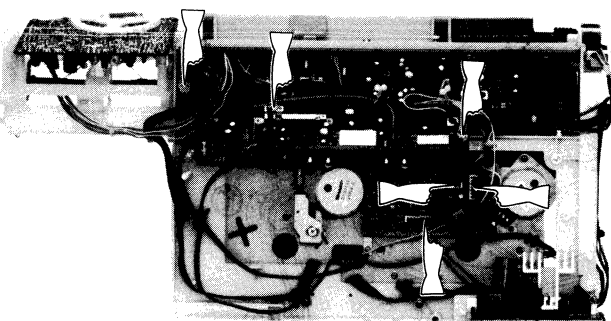

Figure 5-5
1. Remove three sockets at the mechanism P.W.B. and three sockets at the record/playback P.W.B. See Fig. 5-5.